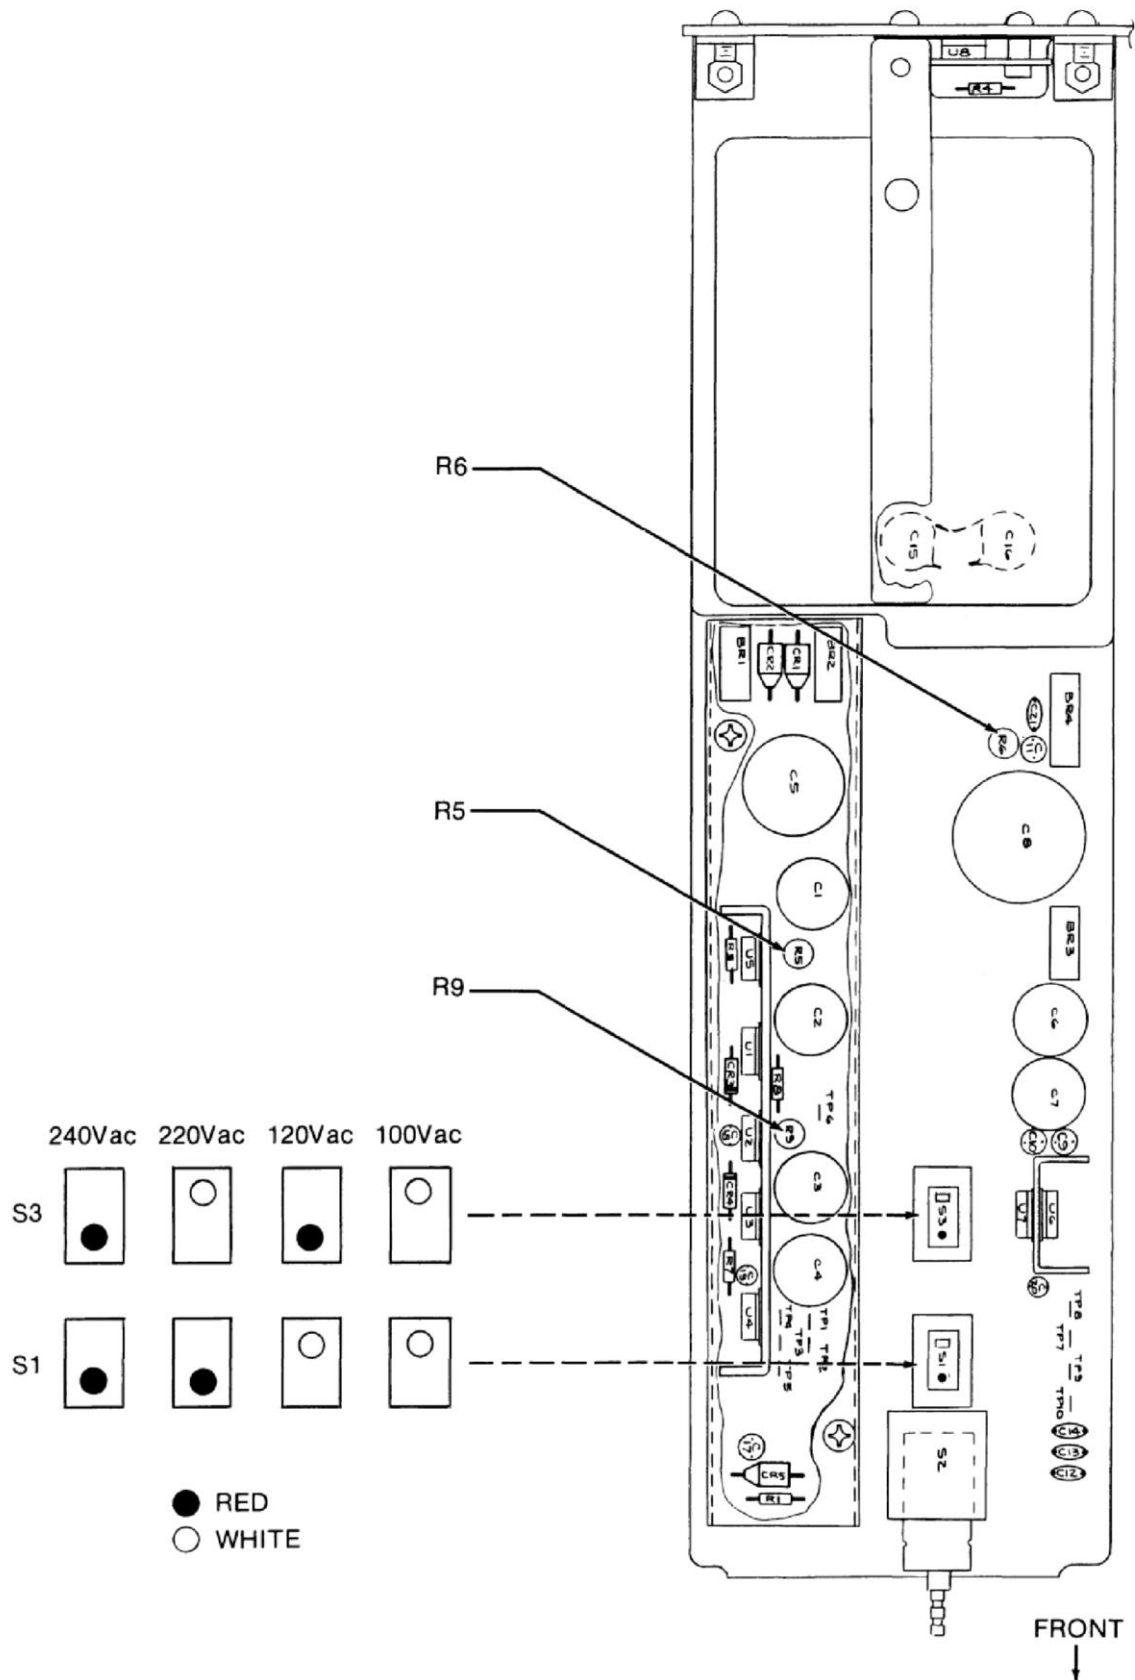

Figure 4-1. Power Supply Settings
- The Line Voltage Selection switches are located in the left front of the instrument, just behind the main power control. Referring to Figure 4-1, set these two switches to indicate the desired line voltage (dot/switch pattern).